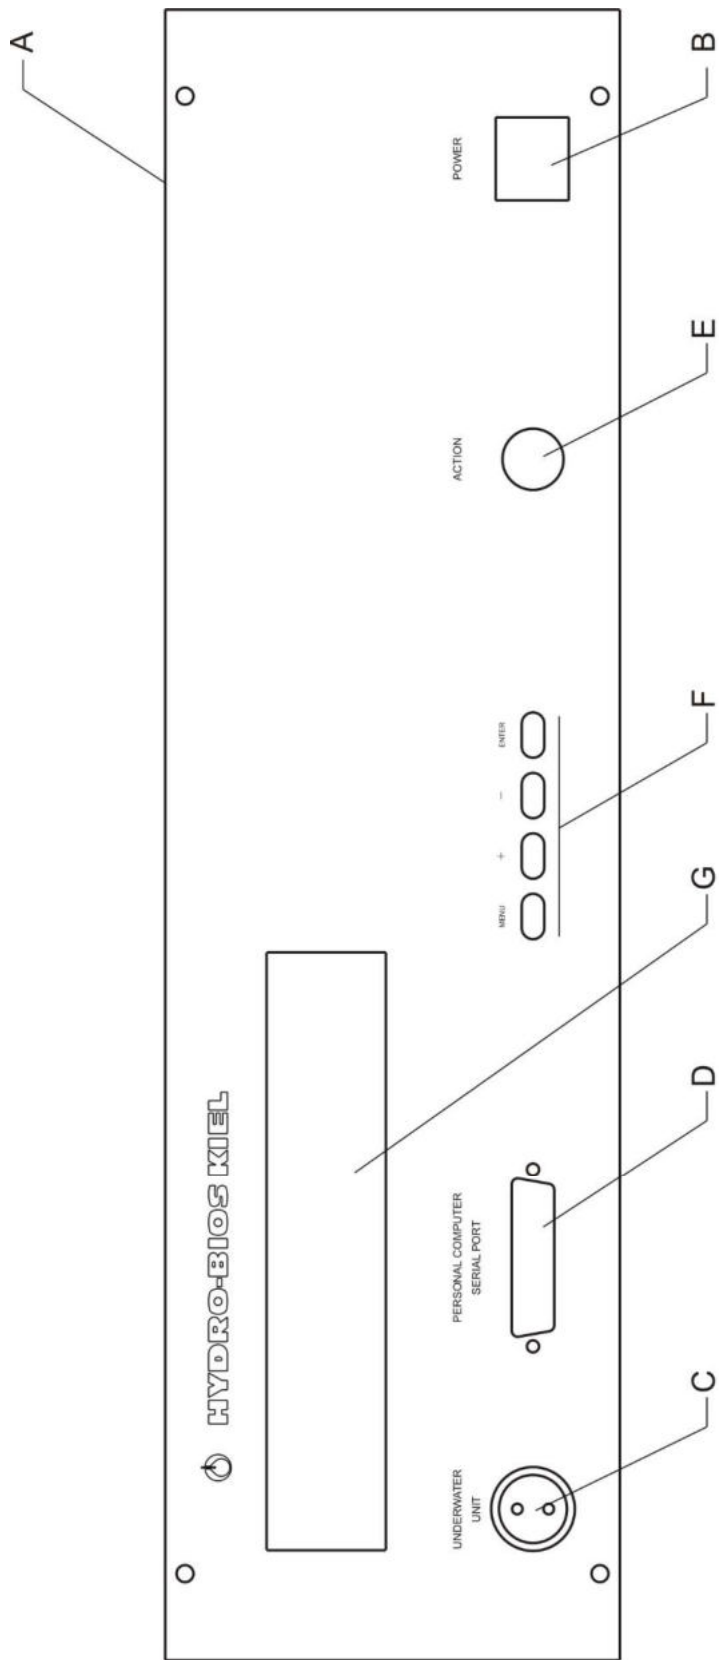

Fig. 4
2. Connect the test run cable to the Deck Command Unit (Fig. 4 C).
3. Switch on the Deck Command Unit, the main switch (Fig. 4 B) is illuminated, the display indicates: **UNDERWATER UNIT: NO DATA**
1. Upon switching on the Deck Command Unit, the main switch is not illuminated (Fig. 4 B), the display remains empty: